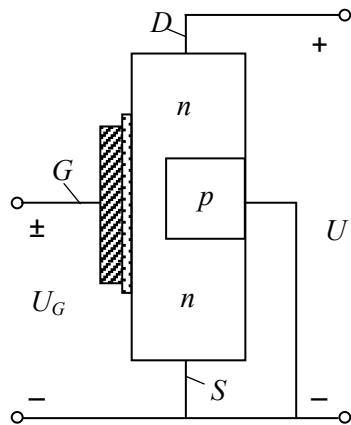
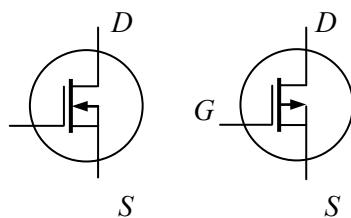

Fig. 1.35
Fig. 1.36
**Depletion-mode MOSFET.** Fig. 1.35 shows a structure and a way to bias an *n*-channel *depletion-mode MOSFET* with a *p*-region called a *substrate*. Usually, the manufacturer internally connects the substrate to the source that results in a three-terminal device. Schematic symbols of *n*-channel and *p*-channel depletion-mode MOSFETs are shown in Fig. 1.36. As with a JFET, the gate voltage controls the width of the channel between the gate and substrate where electrons pass from the source to the drain. The more negative the gate voltage, the smaller the drain current. When the gate voltage is negative enough, the drain current is cut off. However, because the gate is electrically insulated from the channel, one can apply a positive voltage to increase the number of free electrons flowing through the channel. Being able to use a positive gate voltage is what distinguishes the MOSFET from the JFET again. There exists also a *p*-channel MOSFET.